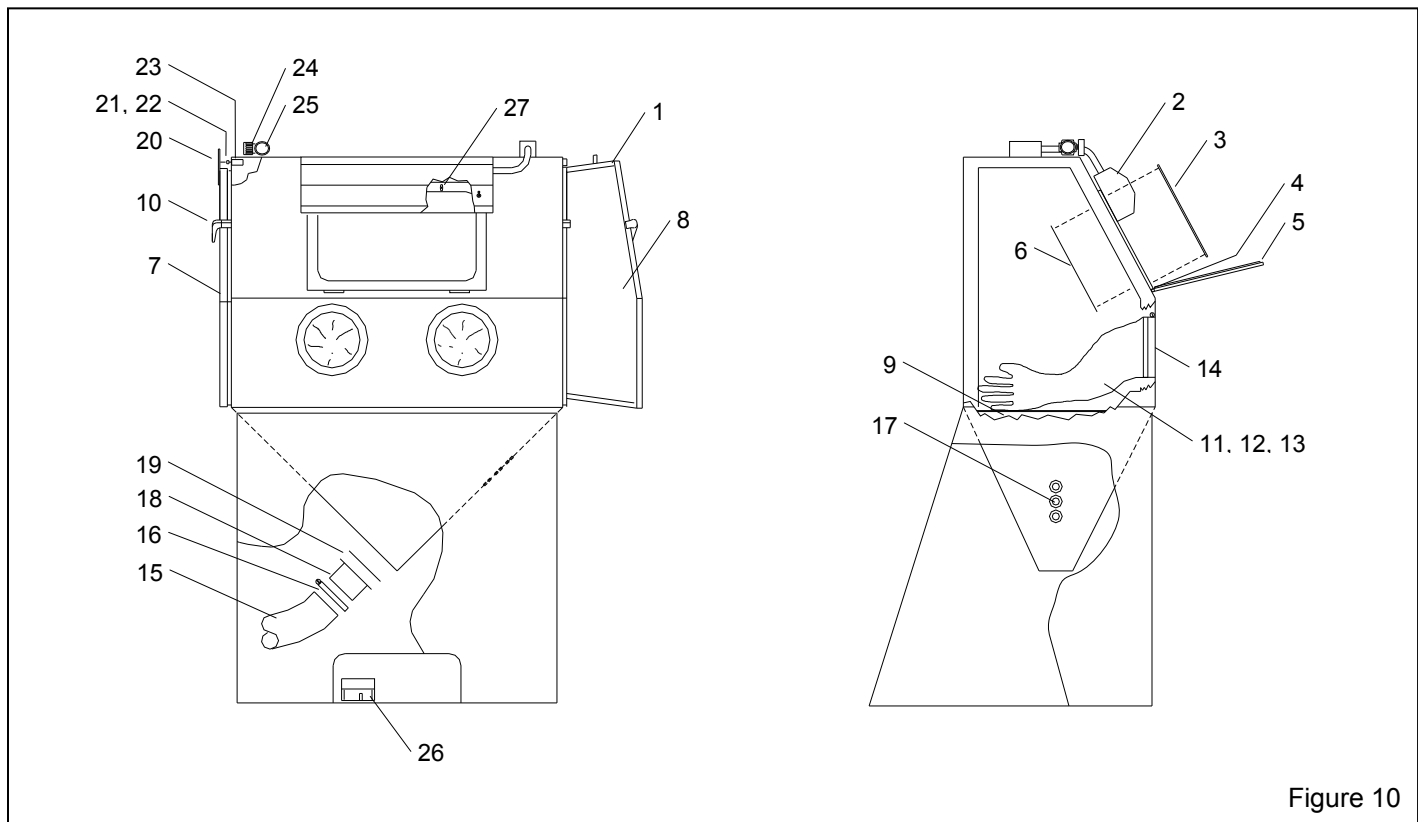

Figure 10
9.2 Cabinet Replacement Parts, Figure 10